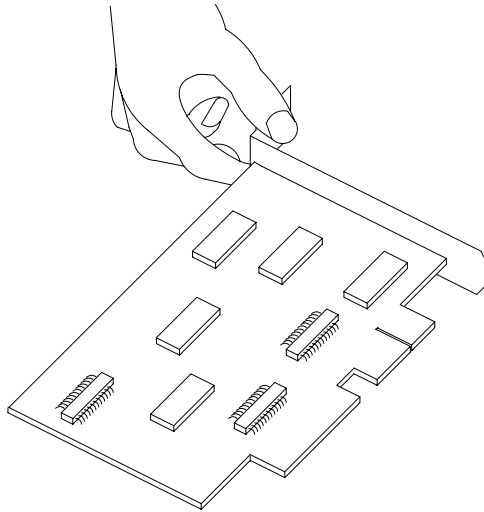
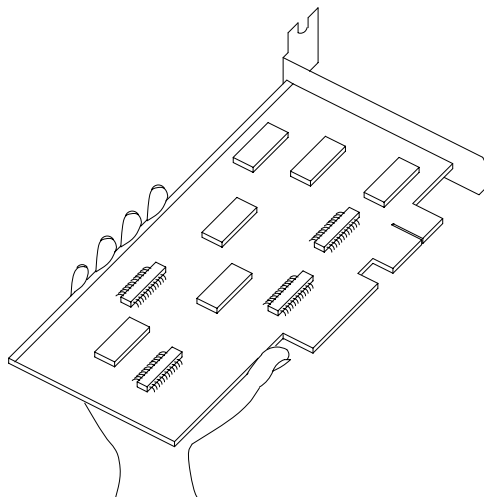

Figure 4-2. How to Hold a Small Circuit Card
Figure 4-3. How to Hold a Large Circuit Card
- Handle a circuit card by the faceplate or side edges only (Figure 4-2 and Figure 4-3).